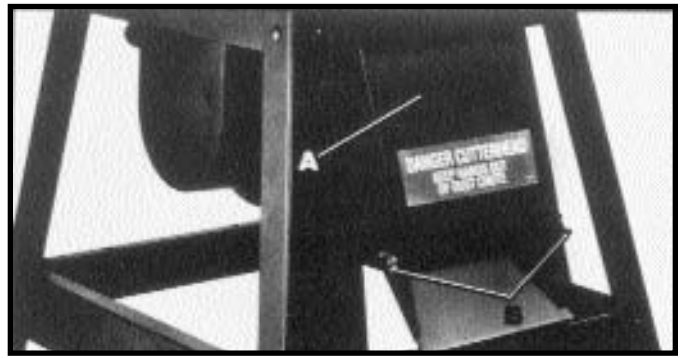

Fig. 63
The dust chute cover (A) Fig. 63, can be removed, for cleaning purposes, by removing the two wing screws (B).